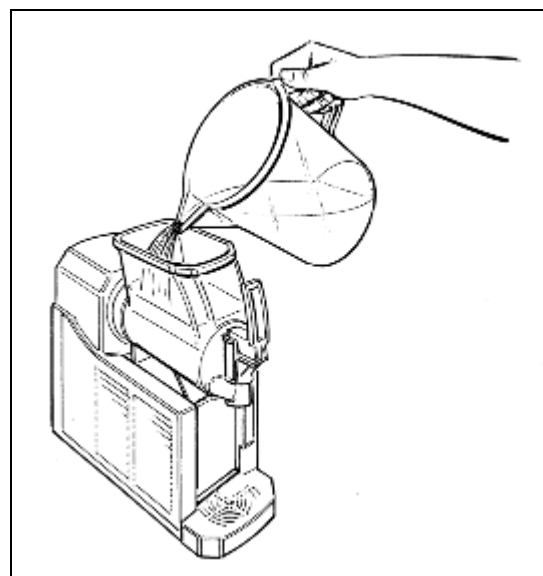

Fig. 22
- Pour the mix obtained into the bowl (see fig.22).